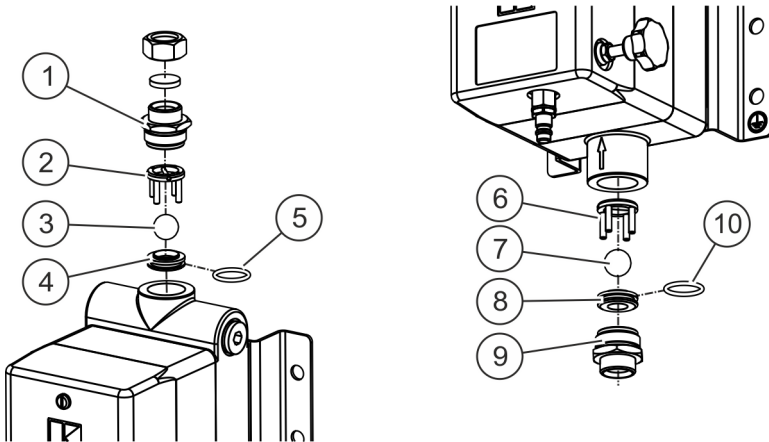

Fig. 7: Valve parts
4. ➤ Unscrew the double nipple (Fig. 7/1 and 9).
5. ➤ Remove the ball guides (Fig. 7/2 and 6) and valve balls (Fig. 7/3 and 7).
6. ➤ Remove the valve seats (Fig. 7/4 and 8).
The double nipples (Fig. 7/1 and 9) are inserted with glue for solvent-proof screw sealing. This glue must be removed completely.
9. ➤ Grease valve housing and O-rings (Fig. 7/5 and 10) slightly.
- 10.** ▶ Make sure that the O-rings (Fig. 7/5 and 10) are mounted correctly on the valve seats.
- 11.** ▶ Mount the valve seats (Fig. 7/4 and 8).
- 12.** ▶ Insert the ball guides (Fig. 7/2 and 6) and valve balls (Fig. 7/3 and 7).
- 13.** ▶ Apply glue to the double nipples (Fig. 7/1 and 9) for solvent-proof screw sealing and screw in.